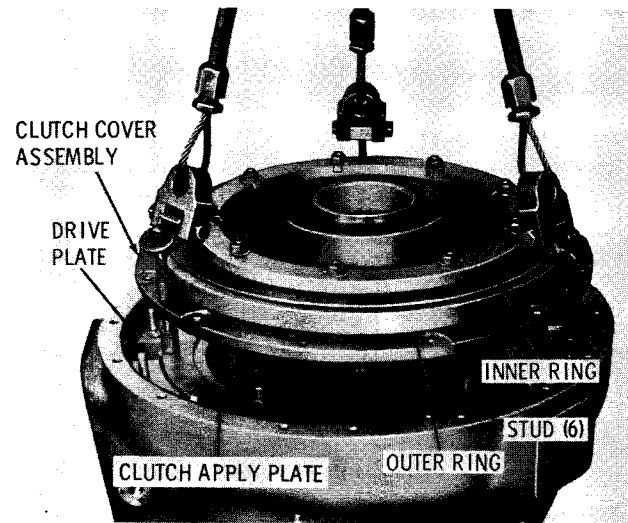

Fig. 7-13. Installing (or removing) clutch cover assembly (VH series)
(15) Position clutch spring outer ring 40 (B, foldout 12) on clutch cover assembly 30. Install nine spacers 34 on nine bolts 29, previously installed.
(16) Install direct drive clutch piston 39, Belleville spring 41 and clutch spring inner ring 42 on bolts 29.
(17) Install nine tab locks 43 and nine 3/8-24 nuts 44 on bolts 29. Tighten the nuts to 17 to 20 pound feet torque. Bend the tab locks against a flat on the nuts and against the inner ring.
(18) Install the clutch cover assembly (fig. 7-13) onto the drive plate.